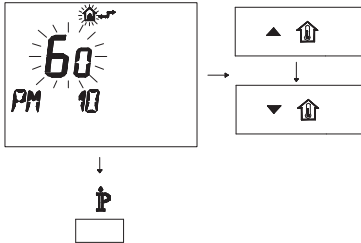

Fig. 7.42
- To modify the programmed SET, act on buttons ▲⬆️ or ▼⬆️ and wait for the number programmed to flash (Fig. 7.42).